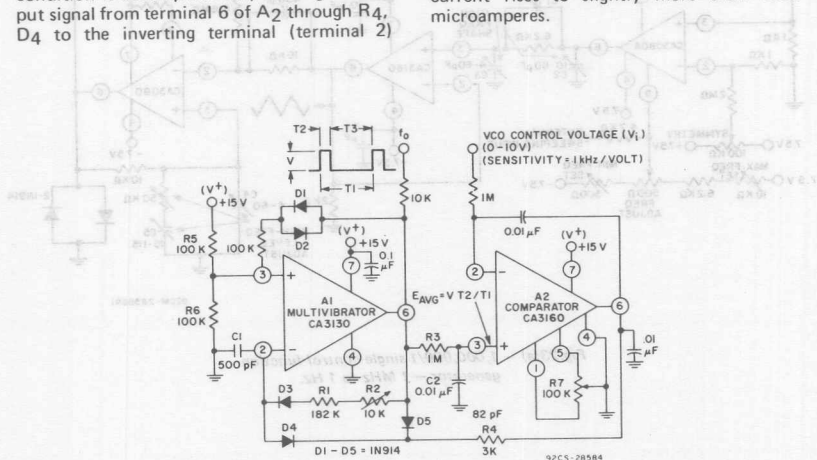

Fig.21 — Voltage-controlled oscillator.
The circuit diagram of a precision voltage-controlled oscillator is shown in Fig.21. The oscillator operates with a tracking error in the order of 0.02 percent and a temperature coefficient of 0.01%/°C. A multivibrator (A1) generates pulses of constant amplitude (V) and width (T₂). Since the output (terminal 6) of A1 (a CA3130) can swing within about 10 millivolts of either supply-rail, the output pulse amplitude (V) is essentially equal to V₊. The average output voltage ($E_{avg} = V T_2/T_1$) is applied to the non-inverting input terminal of comparator A2 via an integrating network R₃, C₂. Comparator A2 operates to establish circuit conditions such that $E_{avg} = V_1$. This circuit condition is accomplished by feeding an output signal from terminal 6 of A₂ through R₄, D₄ to the inverting terminal (terminal 2)